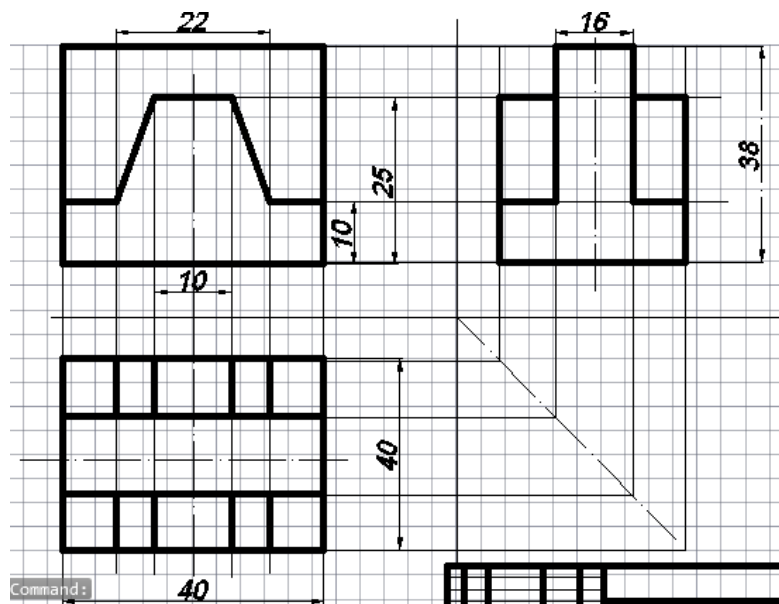

Figure 5.5 – Details 3 views
5.3.5 Then, delete all the construction lines that were drawn to create the top view. To build a view on the left, you need to draw an inclined line at an angle of 45° from the point of intersection of the straight lines dividing the space. Further, from all the anchor points of the top view, draw auxiliary lines to create a view on the left. Change the thickness of the main lines and set the dimensions (figure 5.5).